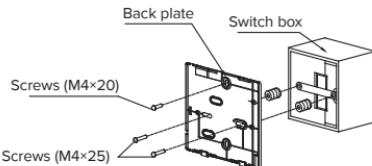

Fig. 3-6
- For switch box mounting, fasten the back plate on the switch box with 2 screws (M4x25) and fasten it on the wall with 1 screw (M4x20). (Fig. 3-6)